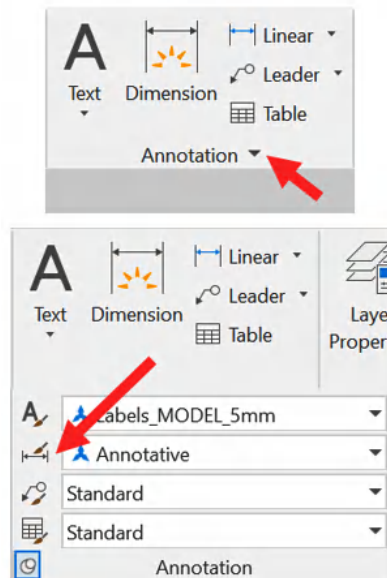

Figure 7.7: Expanding the Annotation panel on the Home tab and then clicking on the Dimension Style icon
1. As with text styles, there are several ways to open **Dimension Style Manager**. You can use the flyout on the **Annotation** panel on the **Home** tab on the ribbon, or you can use the arrow on the title bar of the **Dimensions** panel on the **Annotate** tab on the ribbon. Each of these methods will open the **Dimension Style Manager** dialog box. *Figure 7.7* shows the flyout.